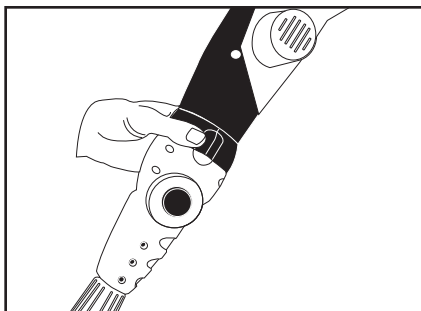

Figure 10
3. Grasp the saw head firmly with one hand and twist the lock ring on the pole to the locked position with the other hand. (see figure 10)